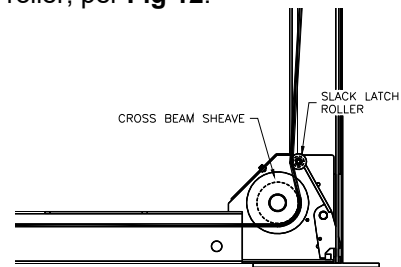

Fig 12 – Slack Cable Routing
18) Reinstall the cross beam sheaves with one plastic bearing washer and spacer on each side of each sheave. Make sure the cables are routed correctly around the slack cable latch roller, per **Fig 12**.